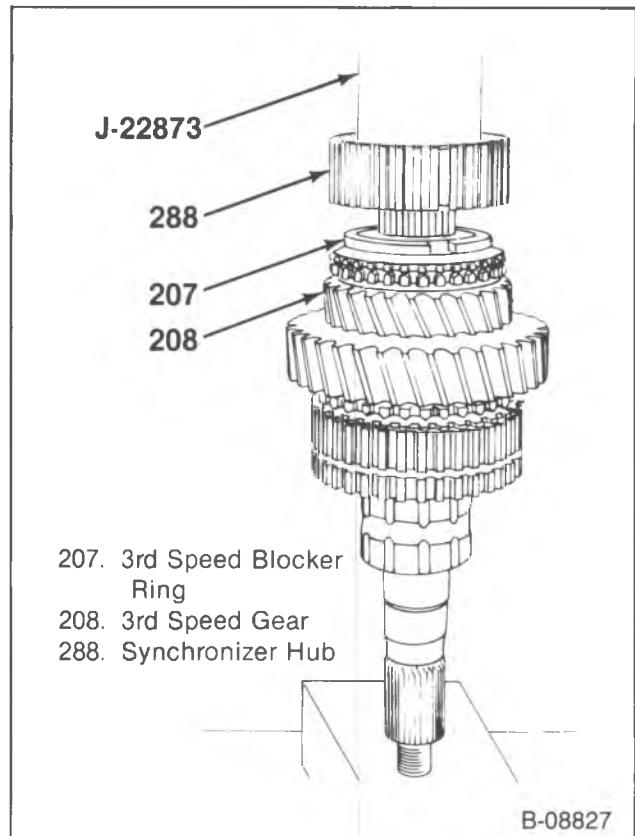

Figure 40—Installing the 3rd and 4th Speed Synchronizer Hub
8. 3rd speed gear (208) and the blocker ring (figure 40).
9. 3-4 synchronizer (205) using J-22873 (figure 40).